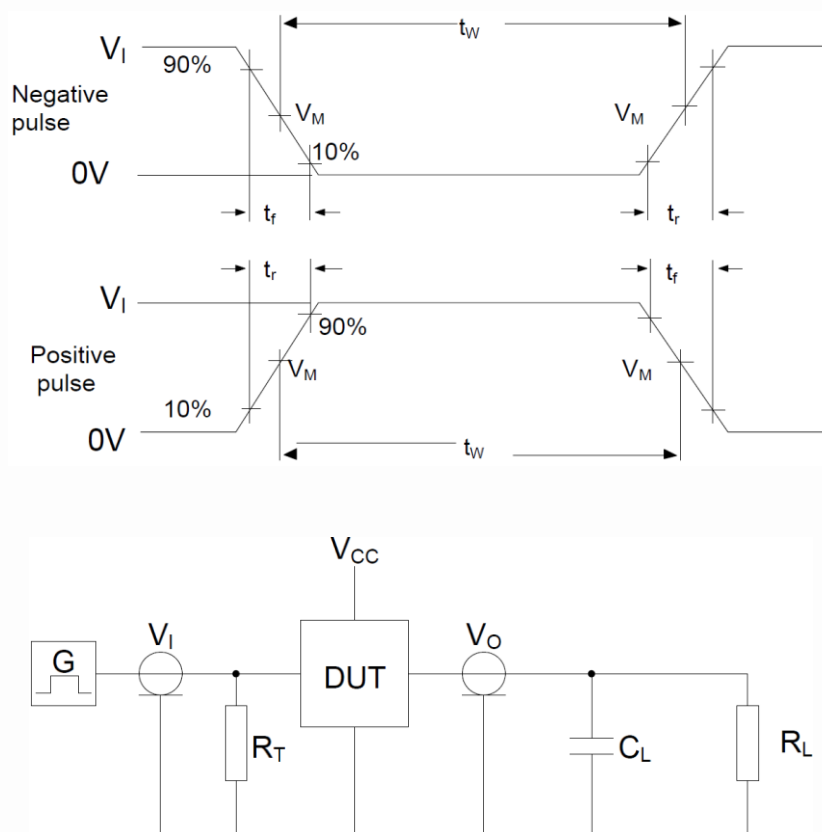

Fig 4. Test circuit for measuring switching times
■ Dynamic characteristics (GND=0V. for test circuit see Fig.4)